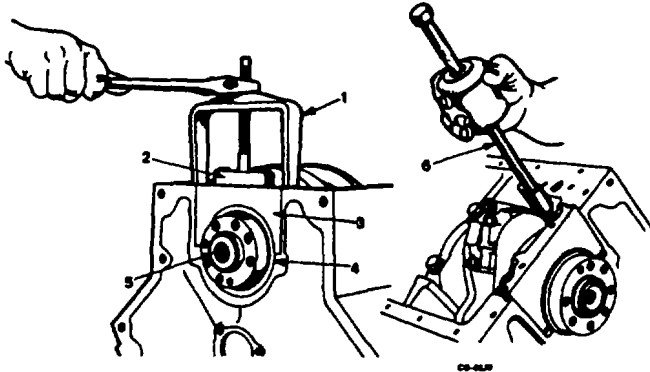

Figure 108. Pulley Rear Main Bearing Cap (No. 5)
- 19. Use puller SE-1719 and adapter SE-1719-3 to remove rear (No. 5) main bearing cap (Figure 108). Slide hammer SE-1746 with remover tool SE-2093 may be used to remove rear bearing cap.